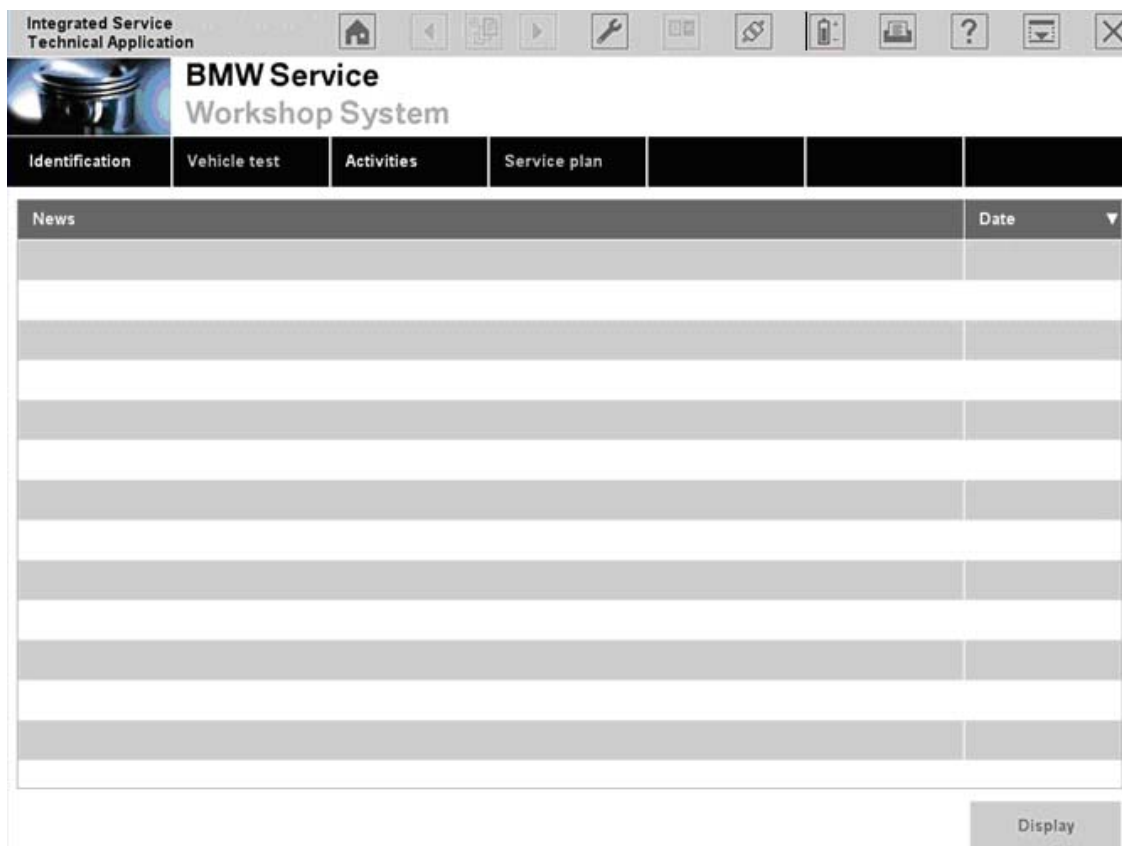

Fig. 3.2 Start mask with news
- ◇ Click the "Close" button, to return to the start mask (Fig. 3.2).